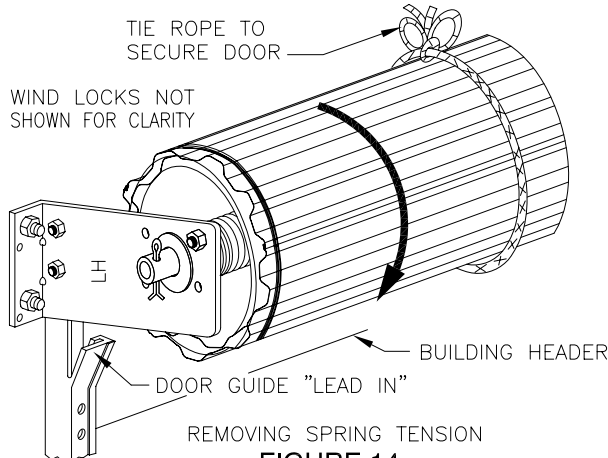

FIGURE 14
RAISE DOOR TO FULL OPEN POSITION. REMOVE HEAD STOPS WHILE HOLDING DOOR IN PLACE. SECURE DOOR IN FULL TOP POSITION. DO NOT LET GO OF DOOR. TIE ROPE TIGHTLY AROUND CURTAIN ROLL AS SHOWN IN FIGURE 14 ABOVE.
STEP 17 IF DOOR DRAGS IN GUIDES; (A) CHECK DOOR MOUNTING BRACKETS FOR PLUMB. (B) ADJUST LOCATION OF GUIDES FOR 3/8" CLEARANCE FROM CURTAIN ROLL END TO INSIDE OF VERTICAL GUIDE RAIL, TOP AND BOTTOM. (C) CHECK GUIDES FOR FOREIGN MATTER, SUCH AS DIRT, ETC. (D) CHECK FOR DAMAGED GUIDES. (E) ADJUST LEAD-IN BEND AT TOP INSIDE OF GUIDES ("LEAD IN" SHOWN IN FIG. 14).
STEP 18 IF DOOR DOES NOT CONTACT FLOOR LEVEL: (A) USE SPRIT LEVEL TO CHECK WHETHER DOOR OR FLOOR IS OUT OF LEVEL. (B) CONFIRM DOOR SUPPORT BRACKETS AND GUIDES ARE LEVEL. (C) ROLL DOOR ALL THE WAY UP AND CHECK IF CURTAIN ROLLS STRAIGHT ON DRUMS, END OF DOOR SHOULD BE SQUARE.